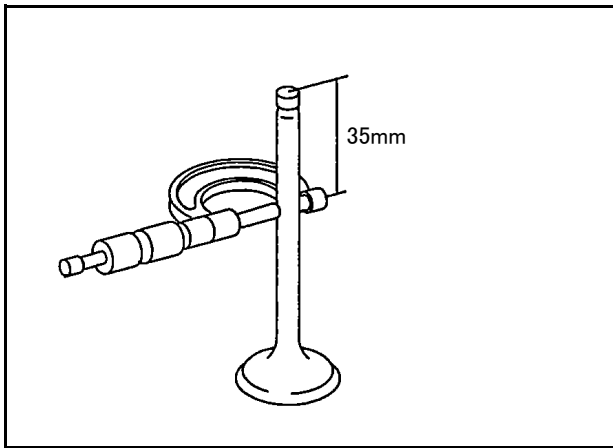

Fig.15-Measure Valve Stem Diameter
- (2) Measure valve stem diameter at specified distance from end of valve, as shown in Fig.15.